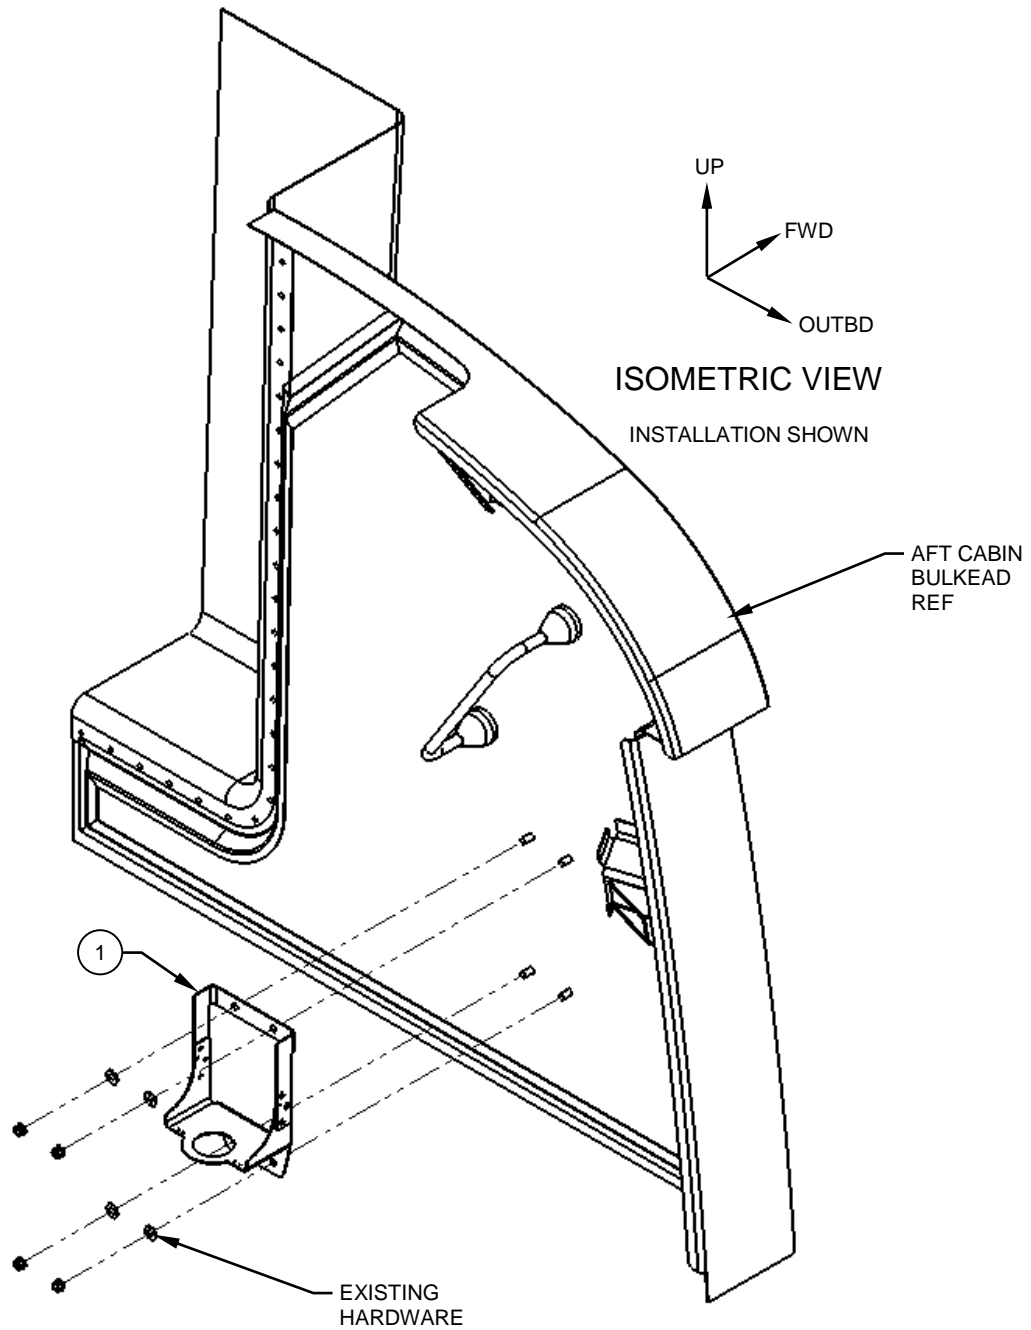

Figure 1
8. Locate and install the Bracket, Assy (Item 1) using the existing fasteners, in the AFT Cabin Bulkhead. Reference Figure 1.